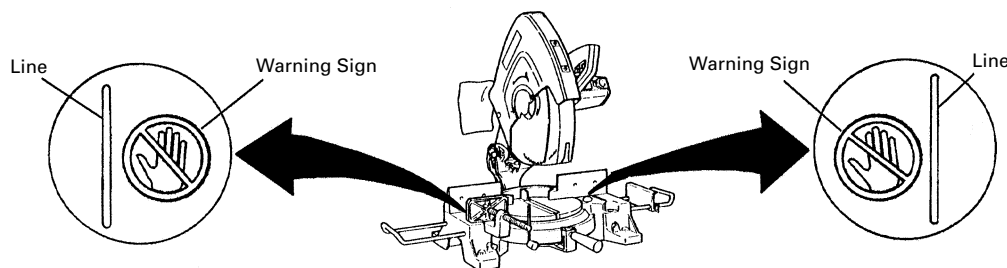

Fig. 13
* Never place your limbs inside of the line next to warning sign while the tool is being operated. This may cause hazardous conditions (see Fig. 13).